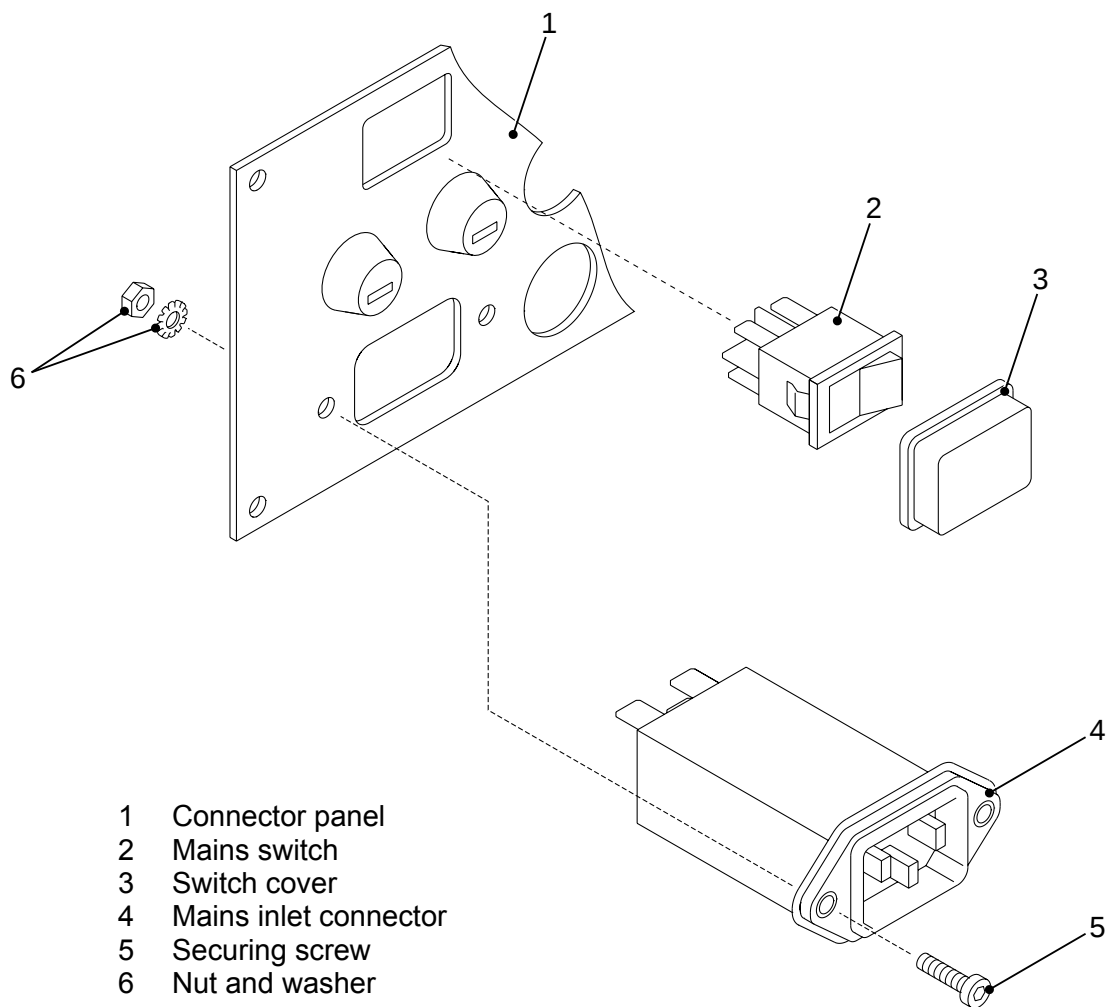

Fig 11.31 Inlet connector and mains switch - removal and refitting
- 39.1 Remove and retain the two screws (Fig 11.31 (5)), nuts and washers (6) which secure the inlet connector (4) to the connector panel (1).
- 40.1 Refit the cables, removed at Para 39.2, to the terminals on the rear of the inlet connector (Fig 11.31 (4)).
- 41.1 Remove the cables from the terminals at the rear of the mains switch (Fig 11.31 (2)) noting their position for refitting.
- 42** Push the mains switch (Fig 11.31 (2)) into its mounting hole after first checking that the orientation is correct.
- 43** Fit the cover (3) to the switch.